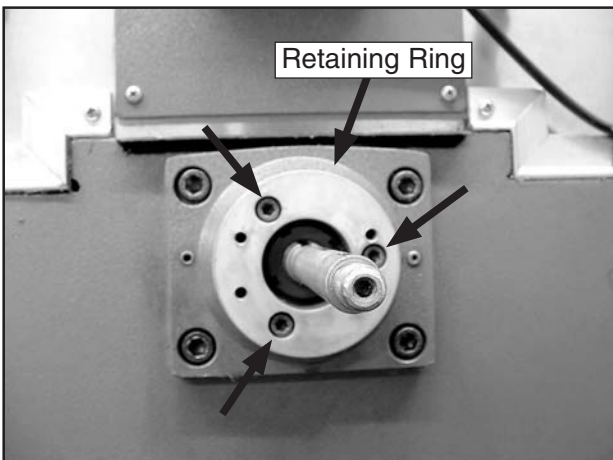

Figure 92. Y-axis lead screw retaining ring and cap screws.
9. Use a 5mm hex wrench to remove the three cap screws and retaining ring (see **Figure 92**).